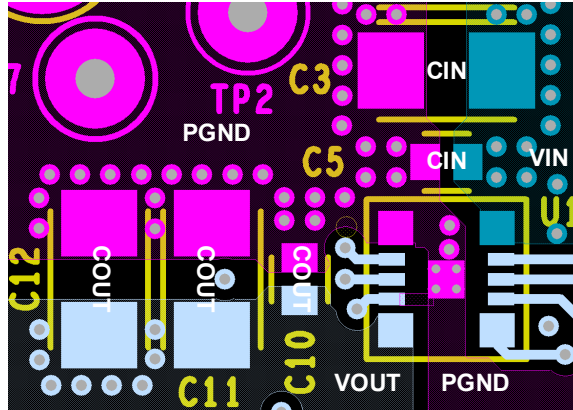
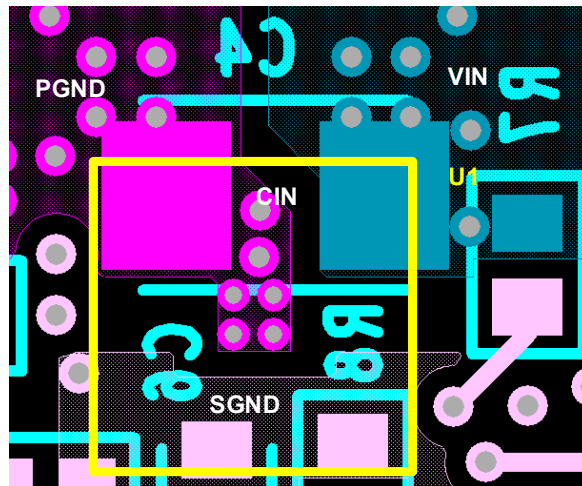

Figure 36. Layout Example - Top Layer
Figure 37. Layout Example - Bottom Layer
- Place the input ceramic capacitors as close as possible to the module input. These ceramic capacitors minimize the high frequency noise by reducing the parasitic inductance of the power loop. Proper placement of these capacitors not only leads to less PHASE node spikes and ringing, but also minimizes the switching noise coupled to the module. Renesas recommends using dielectric X7R or equivalent with a minimum total capacitance of $44\mu\text{F}$ at the module input. A layout example is shown in Figure 36 and Figure 37.